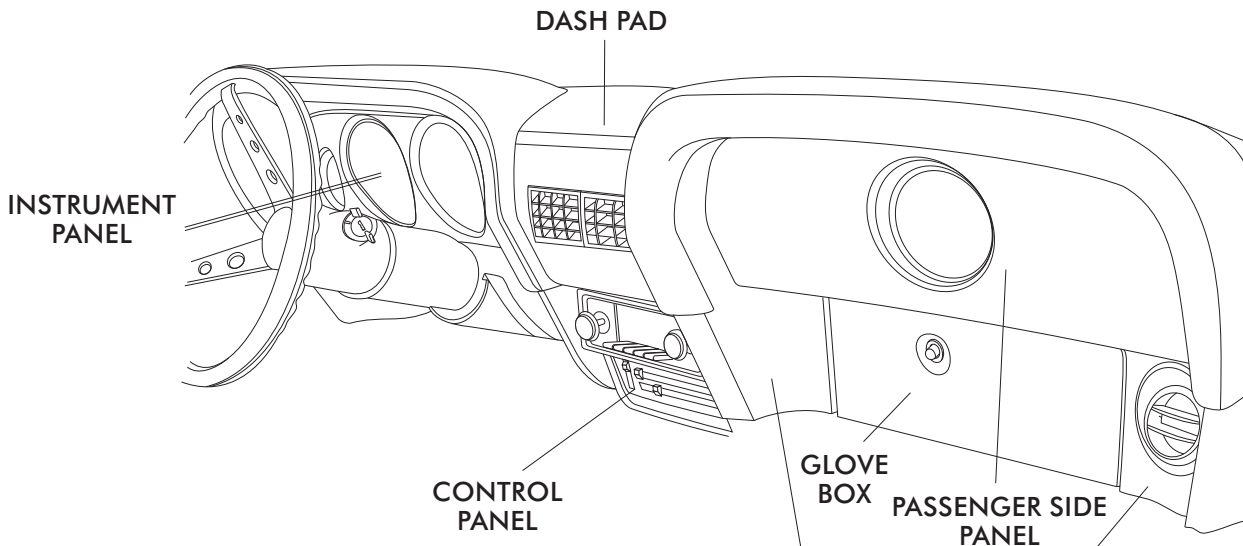

FIGURE 2
- REMOVE DASH PAD, INSTRUMENT PANEL, PASSENGER SIDE PANEL AND LOWER PASSENGER SIDE DASHBOARD (RETAIN SCREWS) SEE FIGURE 2.
- GLOVE BOX (RETAIN) SEE FIGURE 2.
- CONTROL PANEL ASSEMBLY (RETAIN CONTROL PANEL) SEE FIGURE 2.